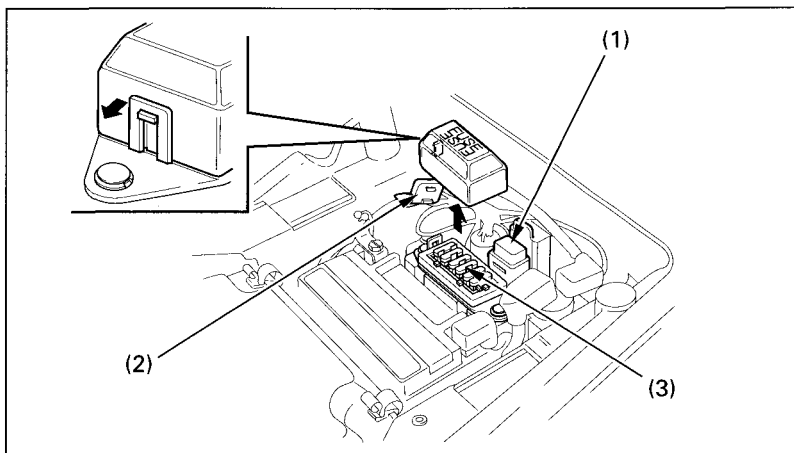

Fig. 4-20 (1) Main fuse (3) Sub fuses
As illustrated in Fig. 4-20, the main fuse (1), main fuse (electric shift motor) (2) and the sub fuses (3) are located in the battery compartment.